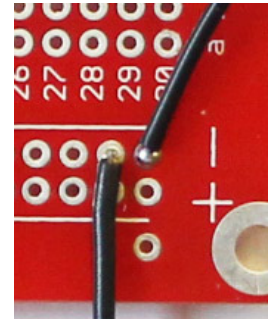

Figure 19
19. Prepare a 4 inch long stranded black wire (22 AWG) and strip one end. Solder the wire to hole second from right on bottom negative power bus (see Figure 19).